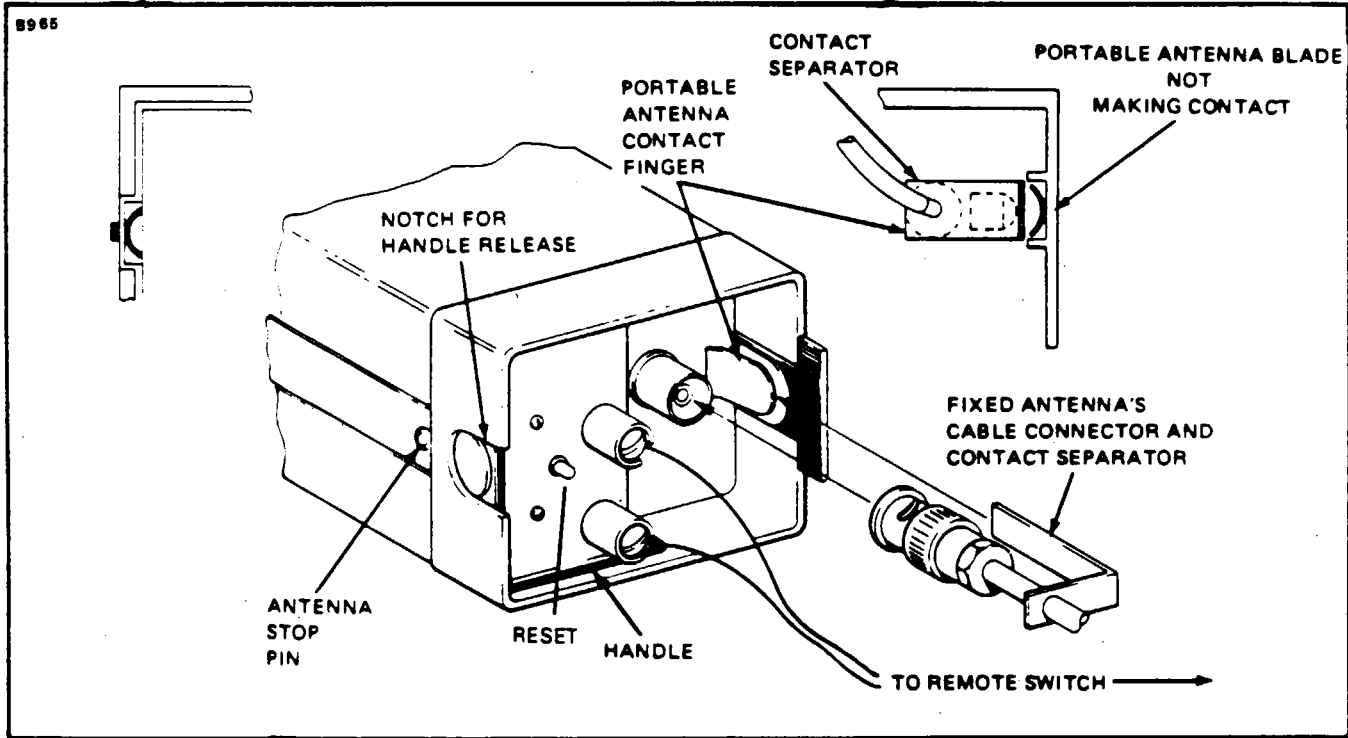

Figure 23-3. ELT Using Fixed Aircraft Antenna (Narco)
13. Connect the antenna coaxial cable to the ELT and ensure that the contact separator is inserted between the antenna contact finger and the portable antenna. (Refer to Figure 23-3.)